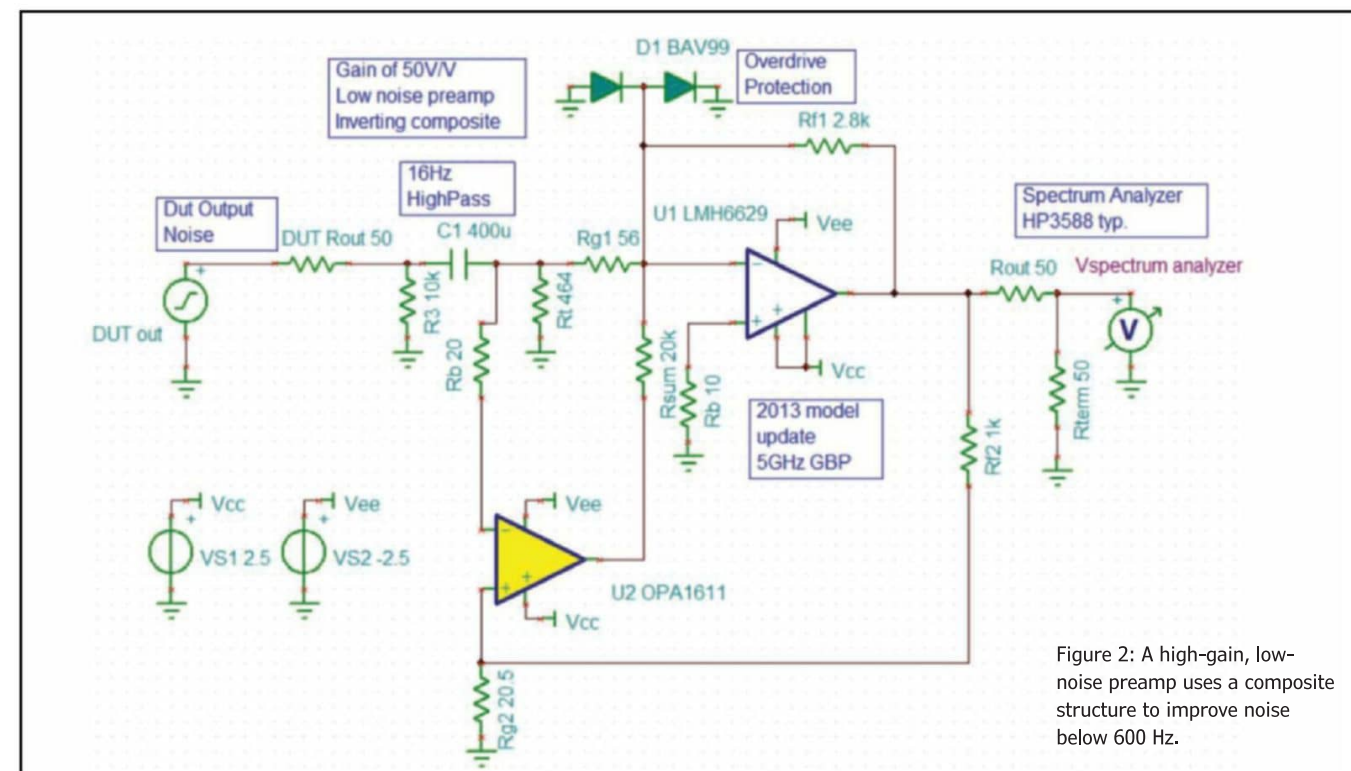

Figure 2: A high-gain, low-noise preamp uses a composite structure to improve noise below 600 Hz.
audio amplifier offers a 1.1 nV/ $\sqrt{\text{Hz}}$ input noise with a 1/f corner below 50 Hz. Combining these amplifiers into a low-noise composite preamp suitable for lab characterization gives the full circuit shown in **Figure 2**. Since this is intended for general purpose lab equipment, several added features are included:
- One of the interesting advantages of matched input impedance inverting operation is the noise gain (NG) is much lower than the signal gain. Here that is $1 + 2.8 \text{ k}\Omega / 101 \Omega = 28.7 \text{ V/V}$. The LMH6629 model produces a 5 GHz gain bandwidth product. This should yield a closed loop F-3 dB of about 174 MHz in the LMH6629 high-frequency path. Since the simulation of Figure 2 showed a 225 MHz F-3 dB, there is room to increase the gain provided in this design and still hold good flatness through test frequencies > 50 Mhz.